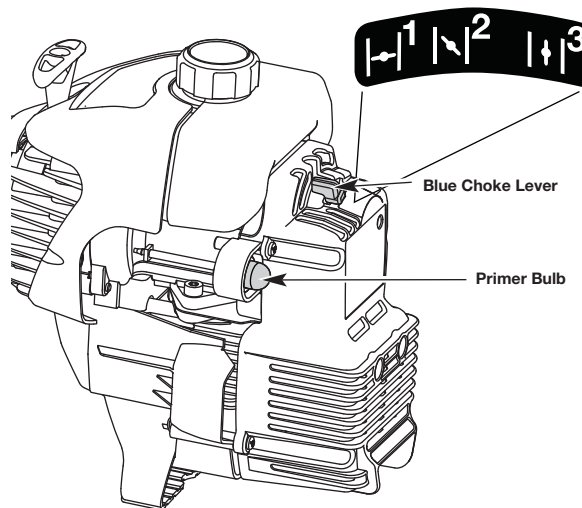

Fig. 20
3. Fully press and release the primer bulb 10 times, slowly. Some amount of fuel should be visible in the primer bulb and fuel lines (Fig. 20). If fuel can not be seen in the bulb, press and release the bulb until fuel is visible.
4. Place the blue choke lever in **Position 1** (Fig. 20).
6. Place the blue choke lever in **Position 2** (Fig. 20).
9. Continue squeezing the throttle control, move the blue choke lever to **Position 3** (Fig. 20) and continue warming the engine for an additional 60 seconds. The unit may be used during this time.
IF... the engine hesitates, return the blue choke lever to **Position 2** (Fig. 20) and continue warm-up.